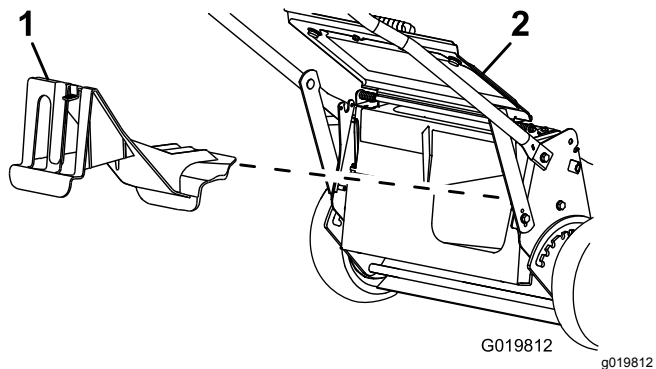

Figure 19
- If the rear-discharge plug is not installed, grip it by the handle, raise the rear deflector, and insert it into the rear-discharge chute until the latch locks into place; refer to Figure 19.